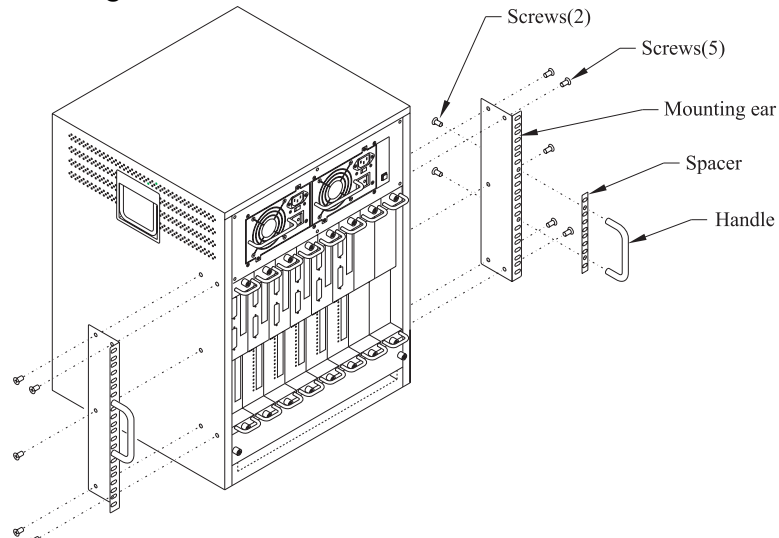
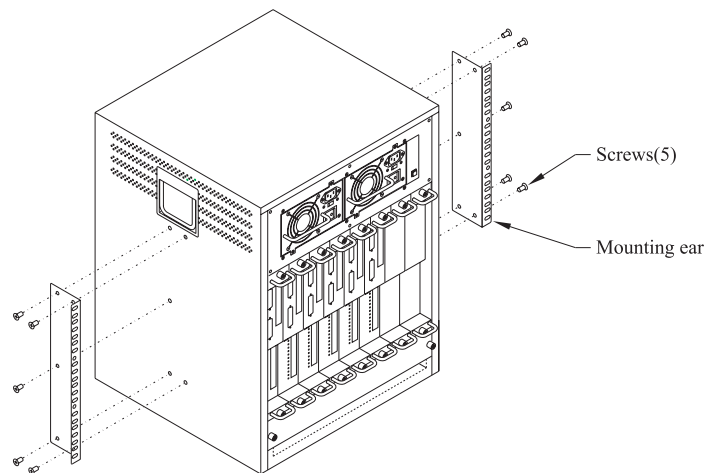

Figure 2. Installing Mounting Ears and Handles for a Standard Equipment Rack
Figure 2.1. Installing Mounting Ears for a Telco Rack
- Never attempt to move the server using the RIOP card handles or the filter cover opening. They will not support the weight of the device. Use the built-in side handles and either the large mounting handles, if you have installed them, or the very bottom of the chassis to move it (see Figures 2 and 2.1).
If you are not going to rack-mount the IntraPort Carrier-8, it is recommended that you install the mounting ears and handles using the Standard Equipment Rack position (as shown in Figure 2).
1. Use the supplied screws and fasten the mounting ears to the sides of the device using 5 screws on each side as shown in Figure 2 (for a standard equipment rack) or in Figure 2.1 (for a Telco rack).
2. Use the supplied screws and fasten the handles and spacers to the center of the mounting ears as shown in Figure 2.